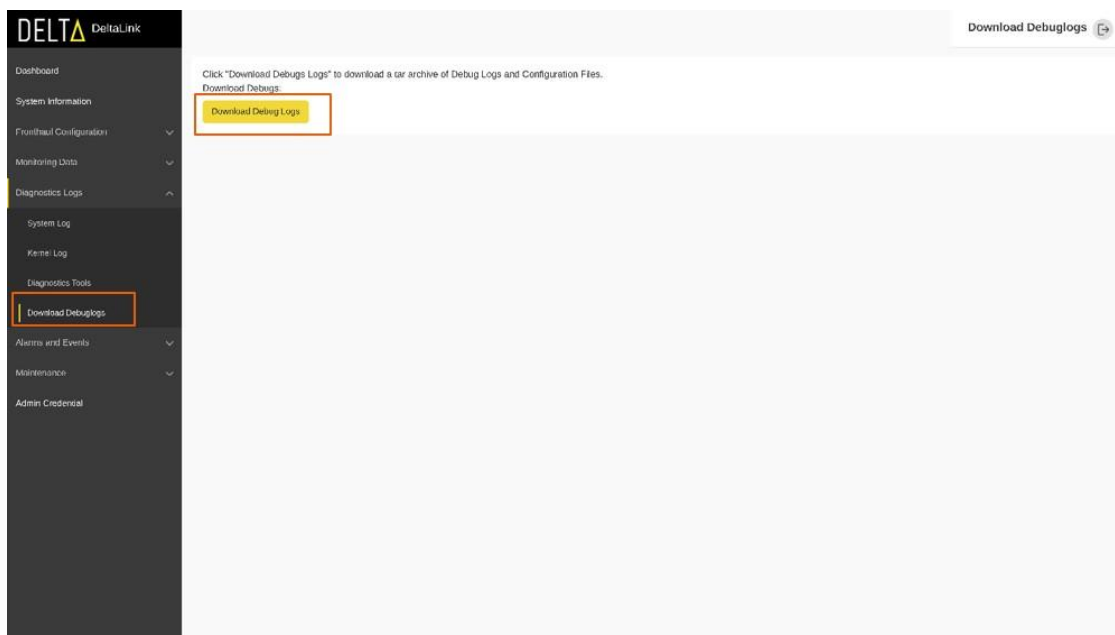

Figure 49 Debug Logs Download
- To download the debugging logs, navigate to "Diagnostics Logs" and select "Download Debug Logs" from the expanded menu as shown in the Figure 49 below.